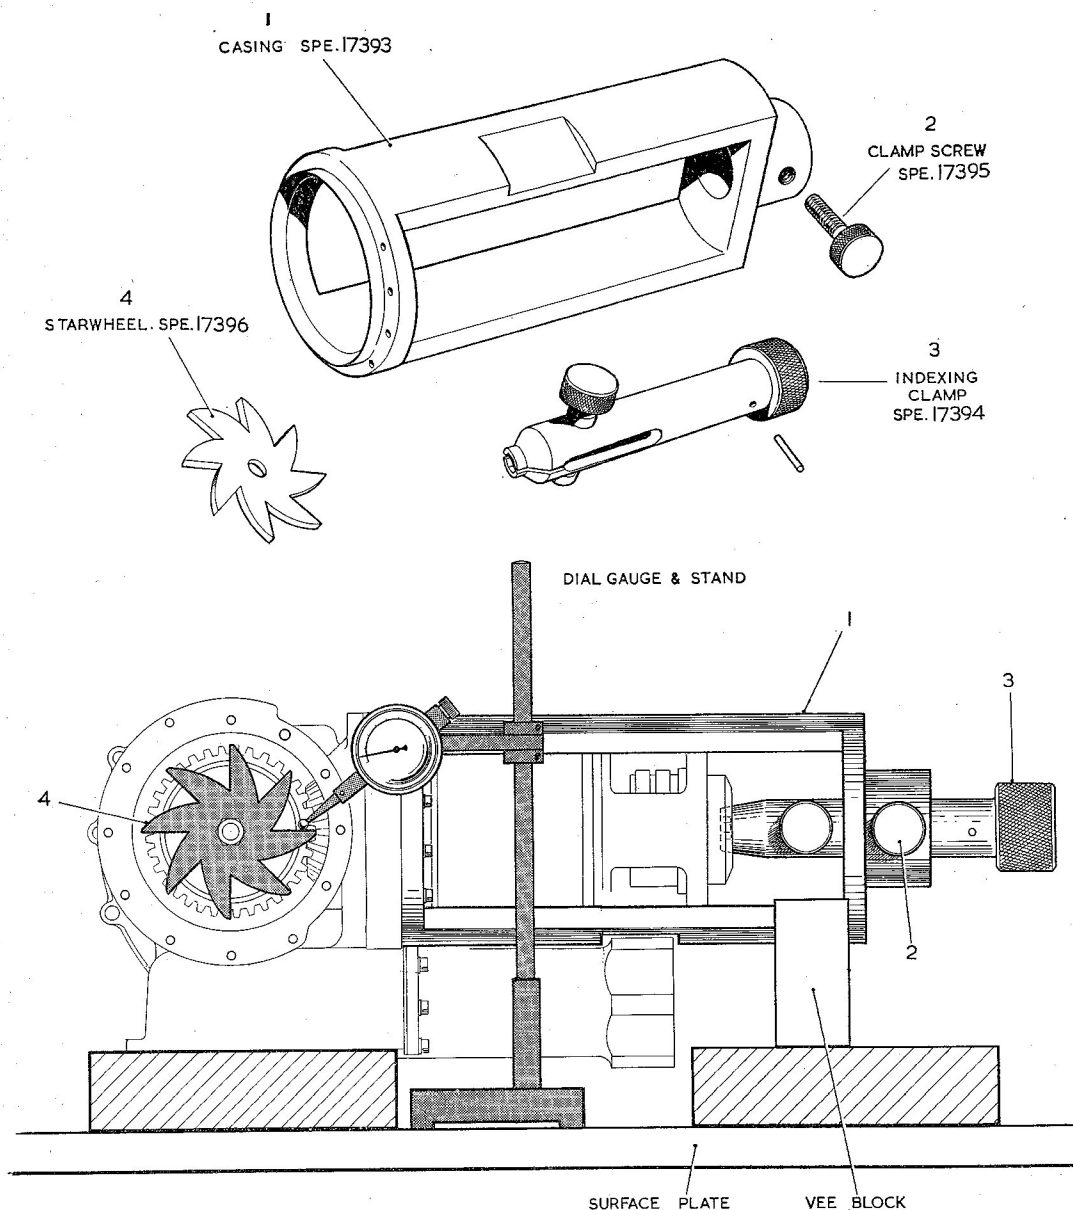

Fig. 13. Backlash checking tools
(1) Remove the pump shaft disc and fit an excessive thickness of shim (6), the bevel gear key (2) and the paired gear (5). Place the special starwheel SPE.17396 (fig. 13) on top of the gear and align it so that one arm is between the markings X-X which will be found engraved on top adjacent gear teeth. Secure the starwheel with a $\frac{1}{4}$ in. B.S.F. nut.
(2) Lubricate the motor unit seal ring (13) with a smear of Silicon compound XG-250 (Ref. No. 33C/9424829). Ease the completed motor assembly into the pump casting, threading the motor unit
Gear alignment (fig. 13)